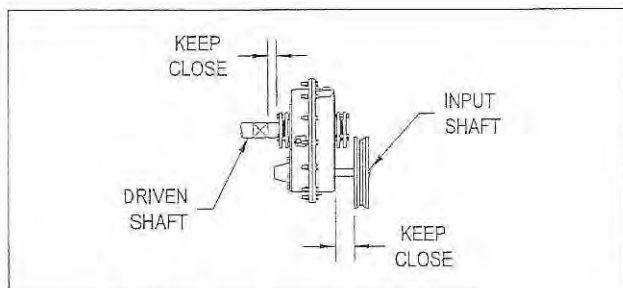

Figure 2 – Reducer and Sheave Installation
4. Install sheave on input shaft as close to reducer as practical. (See Fig. 2)